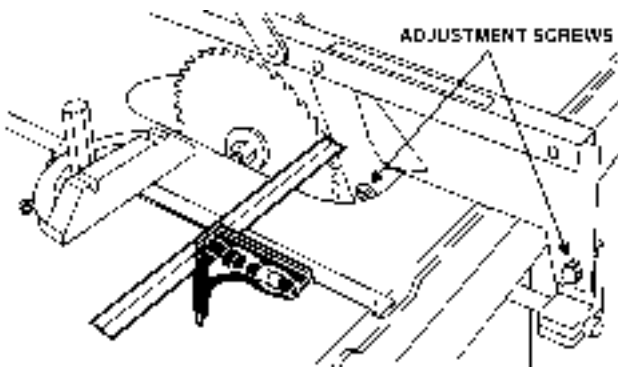

FIGURE 15
1. To align the splitter to the blade use a combination square against the side of the raised up miter gauge bar and slide the scale against the top of the tooth, Figure 15.